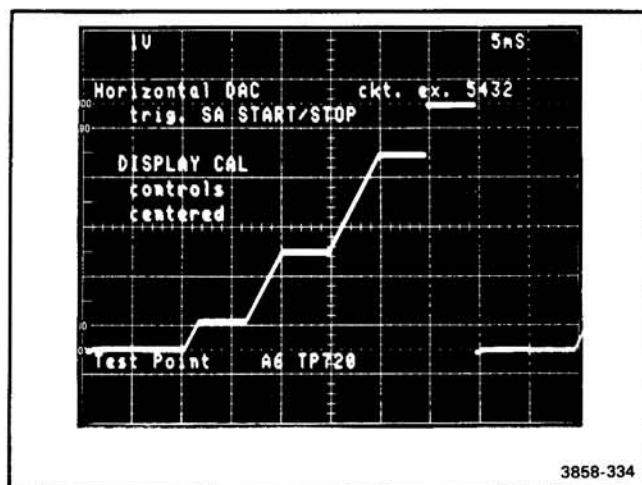

Figure 3-14. Waveform for Horizontal DAC test.
- Horizontal DAC (5432). If this test fails, place the Display Board on an extender and run circuit exercise 5432. Use an oscilloscope to troubleshoot the Horizontal DAC. Waveform Figure 3-14 is a typical output of this test. The SA Start/Stop line provides a stable oscilloscope trigger while using this test for troubleshooting.